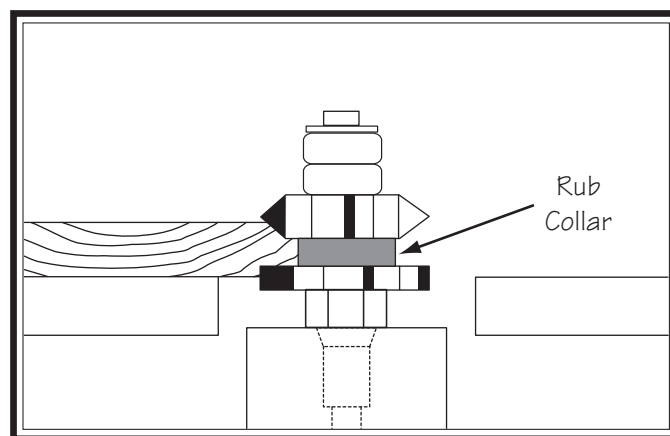

Figure 54. Cutting with rub collar between cutters.
3. **Rub collar between two cutters:** Using a rub collar between two cutters has the distinct advantage of performing two cuts at once or eliminating the need to change cutters for two different operations (see **Figure 54**). Notice that part of the edge is left uncut. The uncut portion rides on the rub collar.